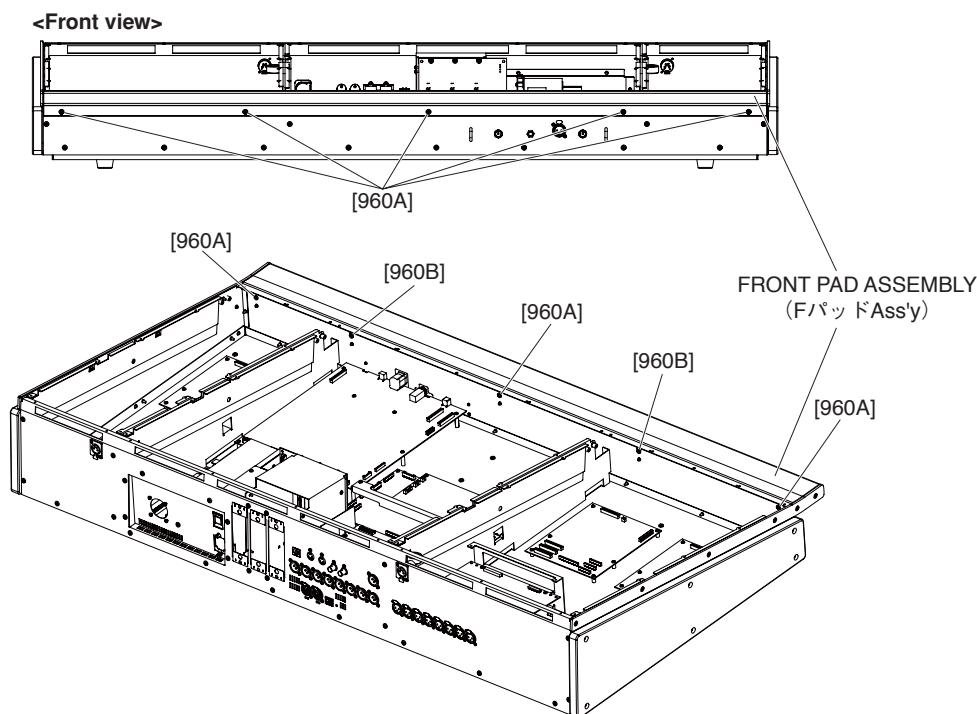

Fig. 3 (図 3)
6-6 Remove the eight (8) screws marked [960A] and loosen the two (2) screws marked [960B]. Lift the front pad assembly a little and remove it. (Fig.3)
6-6 [960A] のネジ 8 本を外し、[960B] のネジ 2 本を緩めて、Fパッド Ass'y を少し上へ持ち上げて外します。(図 3)